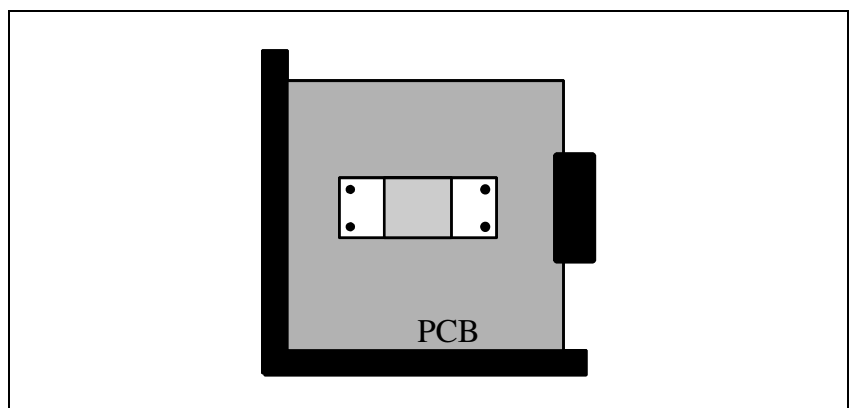

Figure 4-10. Calibration plate L-019-0633-2 on the PCB.
2. When prompted, insert a clean PCB on the lower left end of the Y wagon. Place your calibration plate (L-019-0633-2) upside down on the PCB according to figure 4-10. Verify when ready.